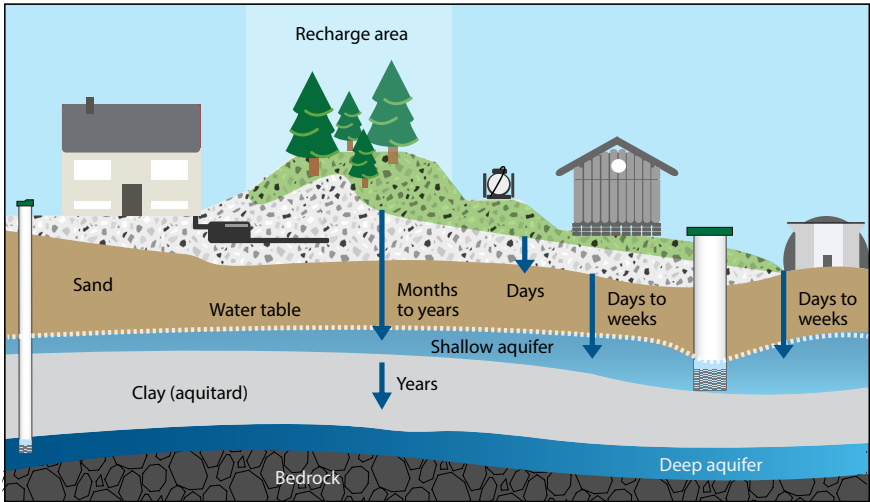

Figure 1. Aquifers and infiltration rates.
**Aquifers** are geologic layers, within which, water flows easily, providing the flow required to supply water to a well (Figure 1). In Saskatchewan, most aquifers are made up of sand and gravel. An **aquitard** is a geologic layer commonly made of till, shale or clay that forms a barrier to water flow. In Saskatchewan, aquitards generally do not provide enough water supply for a well but can act as a barrier to surface water contamination into aquifers. A **confined aquifer** is an aquifer that is located between two aquitards (above and below). In a confined aquifer, the water levels in a well usually rise above the top of the aquifer because the water is under pressure and is often called an **artesian well**.